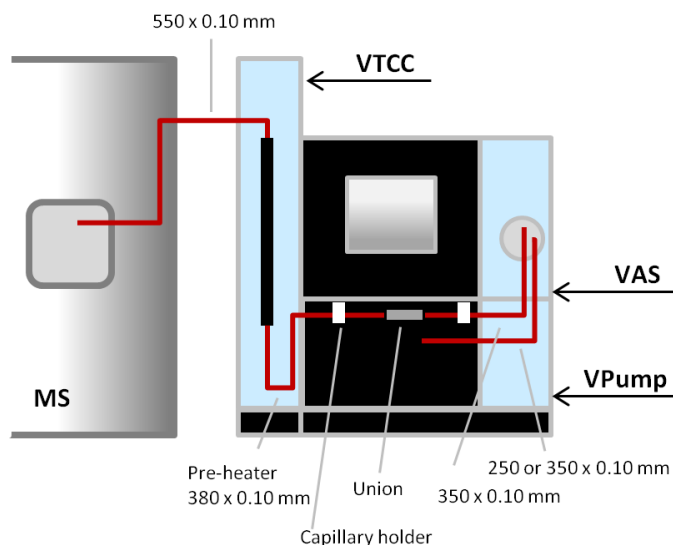

Figure 2. Setup for a Vanquish system as front-end for Exactive mass spectrometers.
- 2) Stack the modules as show below and make all fluidic connections using Viper capillaries, according to Figure 2. Use the capillary holders where needed. The picture illustrates the course of the flexible Viper capillaries in general. Thermo Fisher Scientific recommends installing all capillaries inside the modules as needed. Please note, the capillaries and the Viper union form the autosampler to the column need to be installed inside the pump module. Table 2 provides a detailed overview on the capillaries used and where to find them.